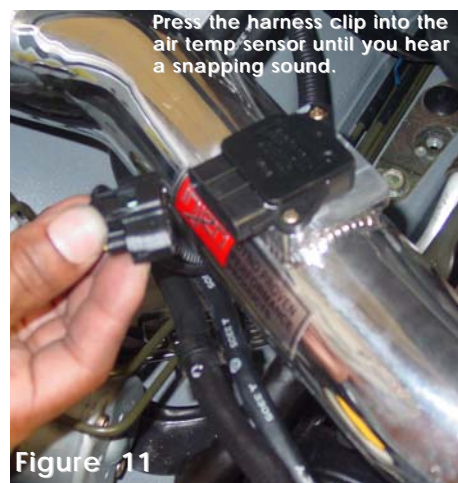

Figure 11
- 10- Take the harness clip and insert it over the air temperature sensor until you here a firm snap, this will insure a good connection. (See fig. 11)